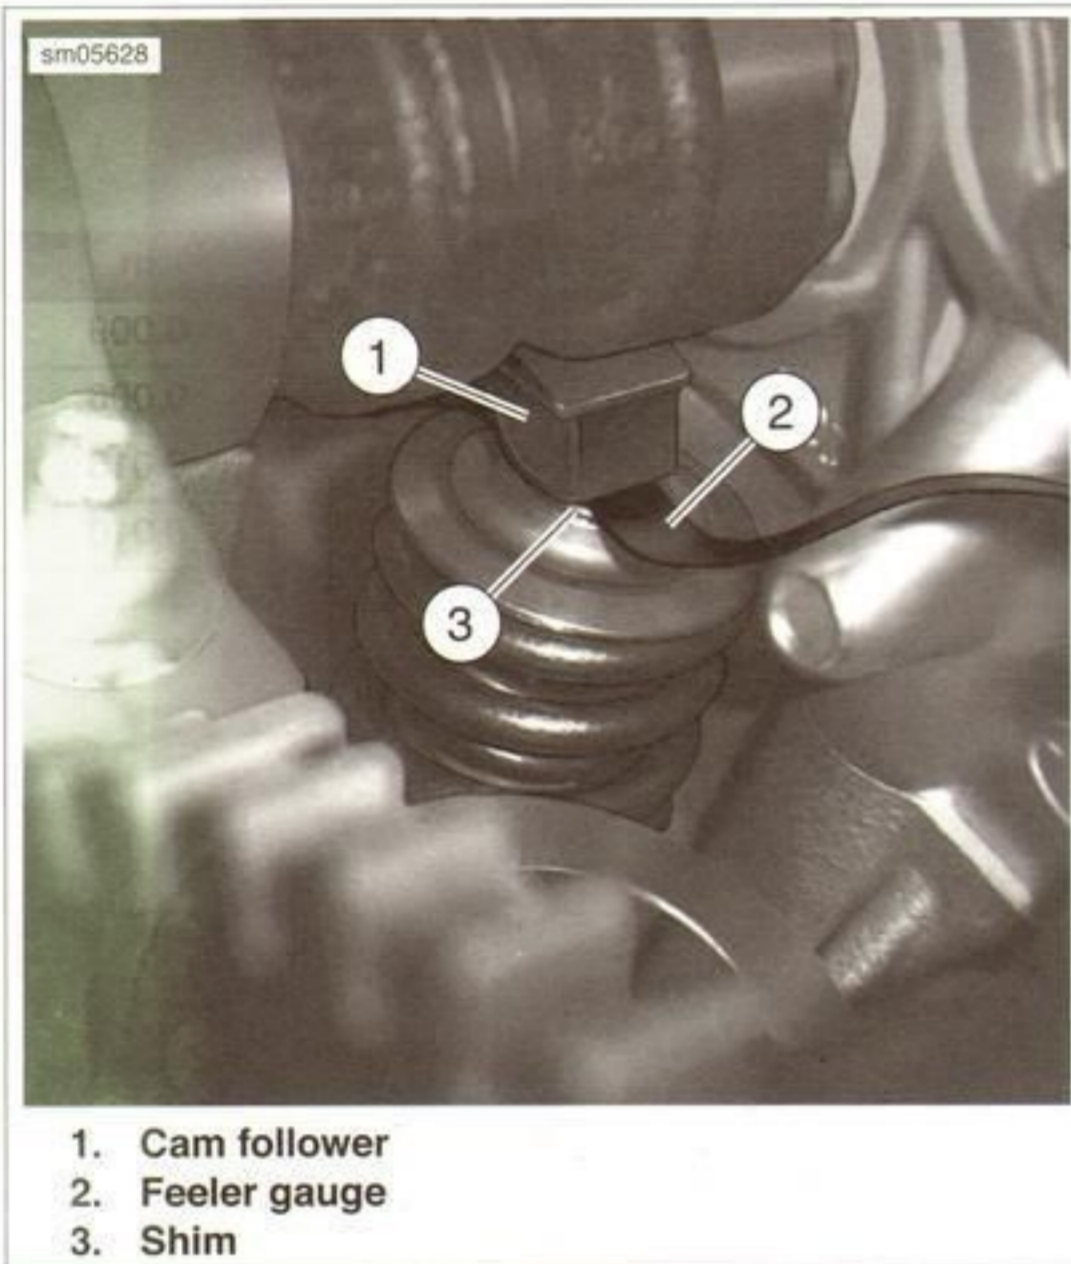

Figure 1-58. Measuring Valve Lash
1. See Figure 1-58. Use feeler gauge to determine valve lash measurement.